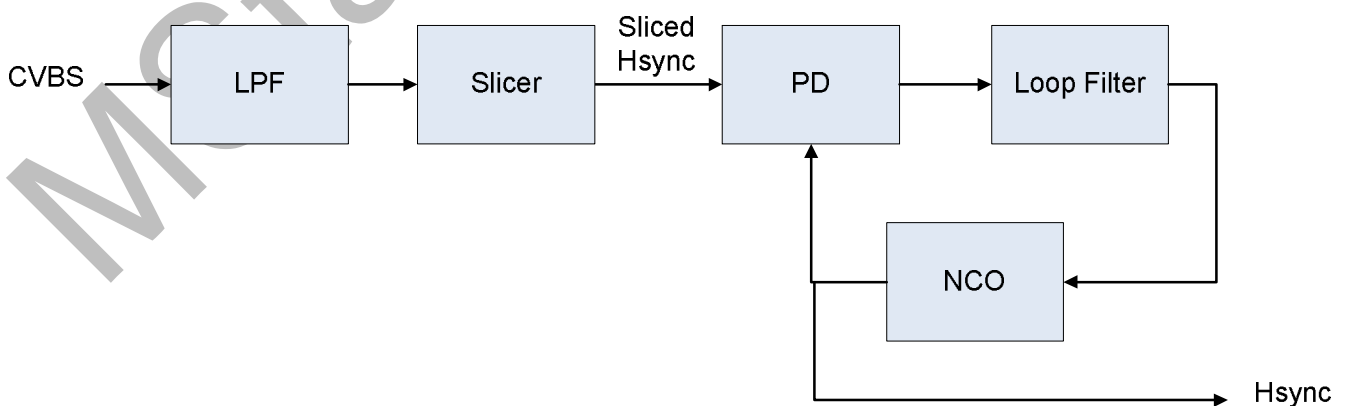
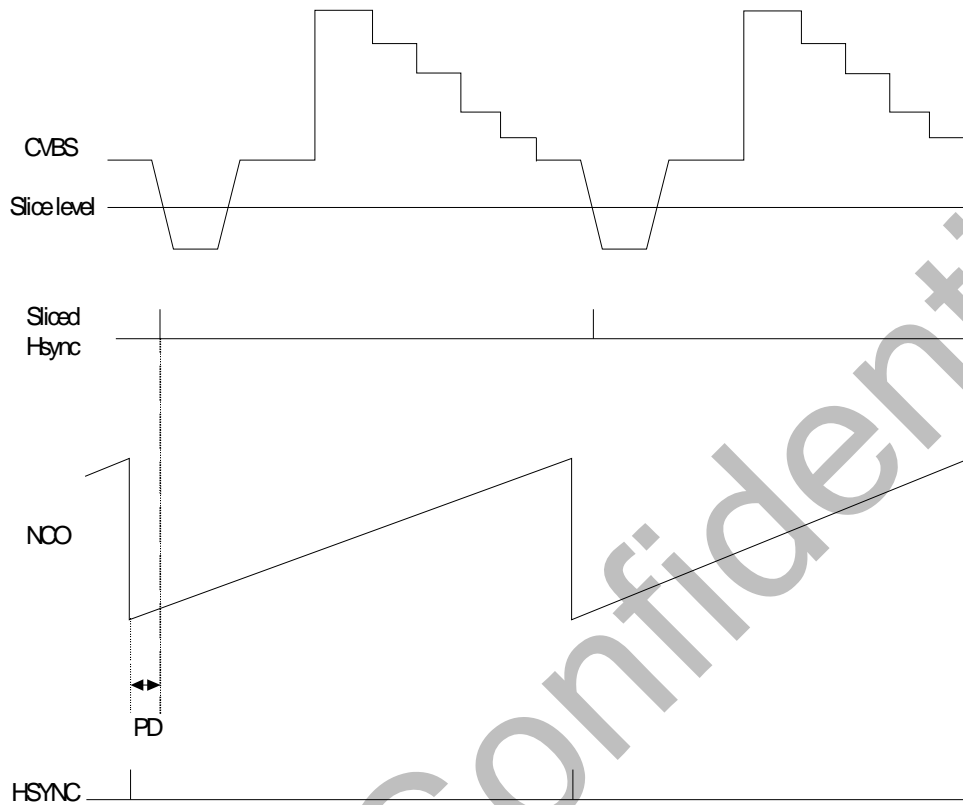

Figure 1
Figure 2
This issue is related to H-sync period unstable. Figure 1 is the H-synchronization block diagram. First, RF TV signal down converted by tuner transfers CVBS signal, which is feed through a low-pass filter to remove chrominance and high frequency noise. Then, the data enter the slicer to generate a sliced h-sync. As in Figure2, sliced h-sync is asserted when CVBS data value is changed from high to low across the slice level. The sliced h-sync then enters a phase lock loop (PLL). The phase detect (PD) module gets the difference between sliced h-sync and NCO output, pass the result to loop filter. Then the final value is used to correct the NCO, so that NCO can lock to the input signal and generates a stable HSYNC output.